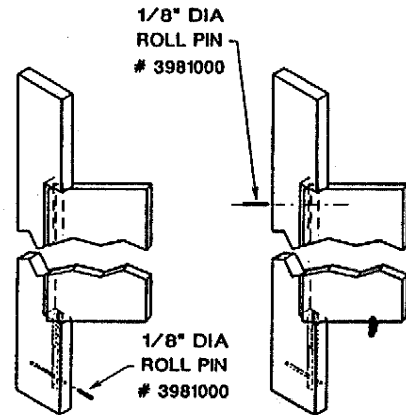

FIGURE 6
c. Set door position. Closed for outswing door, 30° for inswing door. When door position is set drill 1/8" dia. hole a minimum of 2-1/4" deep through pilaster edge and hinge at bottom. Lock hinge into place with 1" long dowel pin part #3981000. See figure 6.